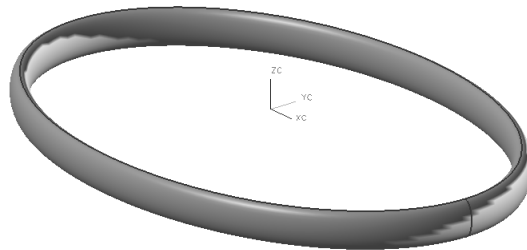

Figure 11-107 The resulting base feature of the surface model
- Choose the **OK** button to create the styled sweep surface. The resulting styled sweep surface created is shown in Figure 11-107.